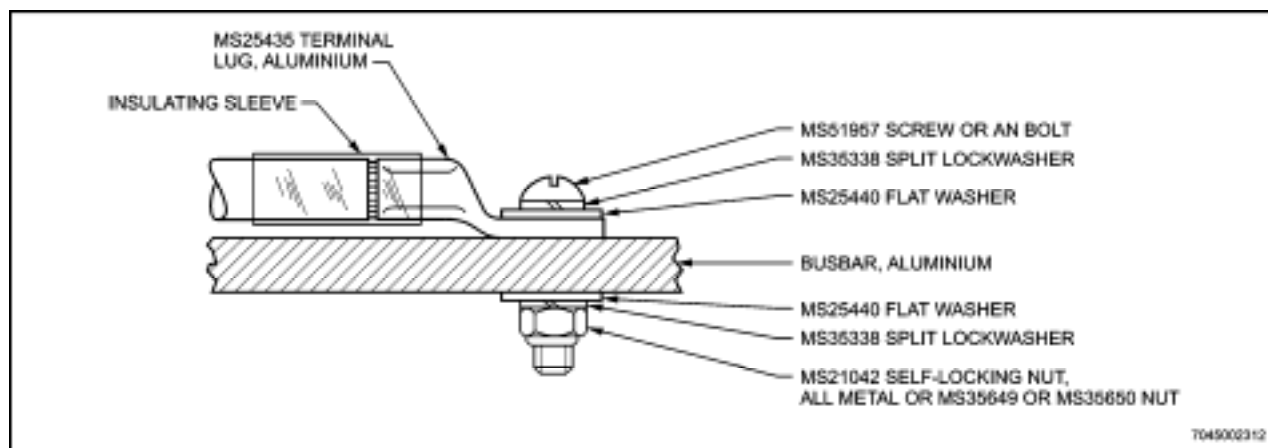
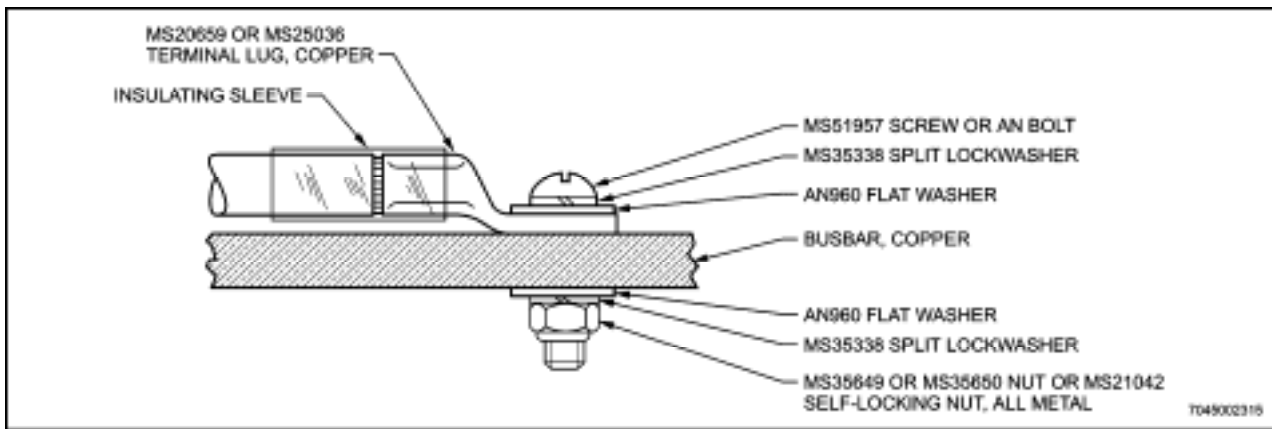

Figure 4-21 Connecting Aluminium Terminal to Aluminium Busbar
Figure 4-24 Connecting Copper Terminal to Copper Busbar
current does not have to go through any of the attaching parts, even if these are good current carrying materials. As illustrated in Figure 4-21 through Figure 4-24, the above applies whether the terminal lugs and the busbar are of the same or of different materials.
69. Cadmium plated steel hardware is used to secure terminals to busbars. Use split lockwashers under hex nuts and under self-locking nuts. Use plated steel plain washers between lockwashers and copper terminals. Use flat washers (MS25440) between lockwashers and aluminium terminals. As shown in Figure 4-21 through Figure 4-24, the head of the screw or bolt can be located on the terminal side or the busbar side, as required to simplify the installation.
70. Use a cadmium plated steel split lockwasher MS35338 under the head of every bolt or screw and also under the nut, as shown in Figure 4-21.